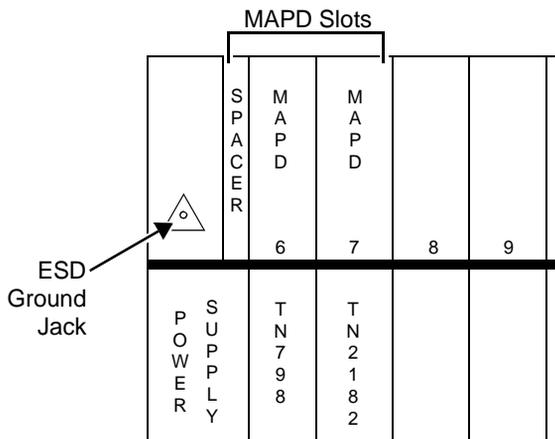

Figure 2-2. MAPD System in a DEFINITY ProLogix Carrier
- DEFINITY PROLOGIX carrier — slots 6, 7, and the spacer (see Figure 2-2.). Although any slots can be used, if you use slots 6 and 7 in a DEFINITY PROLOGIX, the MAPD takes up only two slots instead of three.